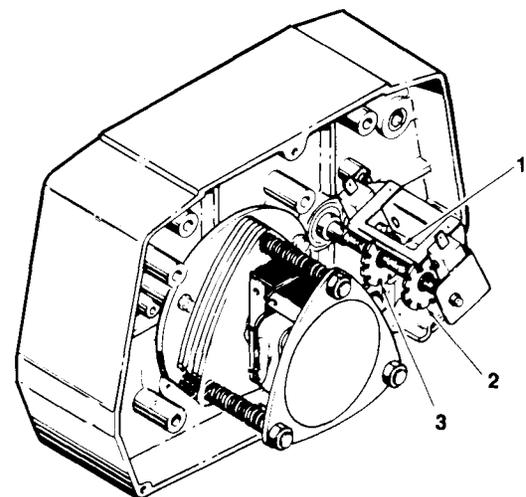

FIGURE 5-1. LIMIT SWITCH ADJUSTMENT
Limit switches are provided to protect the hoist against damage resulting from overtravel. For easy identification the upper (No. 2, Figure 5-1) and lower (No. 3, Figure 5-1) limit switch adjusting nuts are colored red and green respectively. Each limit switch nut has ten slots for adjustment, and the increment of adjustment
- 3.) With a screwdriver, pry the spring guide plate (No. 1, Figure 5-1) out of the slots in the colored limit switch nuts (Nos. 2 and 3).
- c. With a screwdriver, push the spring guide plate (No. 1, Figure 5-1) out of the slots in the plastic limit switch nuts. Turn the red slotted nut (2) back to about the center of the threaded screw. **DO NOT DISCONNECT THE WIRES FROM THE LIMIT SWITCHES.**